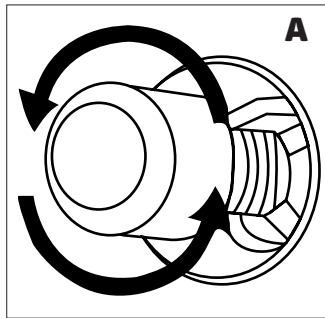
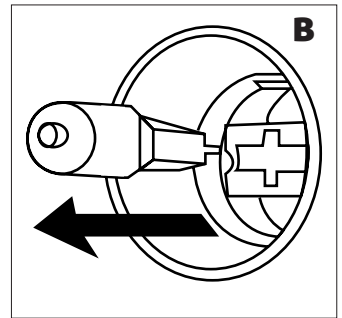

Figure 24
Figure 25
3. Then remove the oven lamp by turning it (see fig. 24) if it is type **A**, or by pulling it (see fig. 25) if it is type **B**.